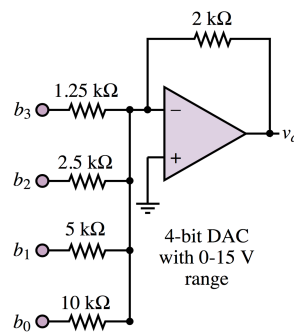

Figure 3: 4-bit DAC
**A2** (1) When pedestrians pass over IR Sensor, they will approach and deviate the sensor, which corresponds to voltage pulses  $V_A$  at the output of it. We can simply count pulse number for passing pedestrian.
(2) When Sensor B is covered with infra-red reflection materials, it can generate pulses  $V_B$  caused by non-infra-red wave. We can reduce wrongly counted number by subtract  $V_B$  from  $V_A$  to avoid counting noise signal.
**Q3** Considering the 4-bit DAC in Fig. 3, calculate the output scope of  $v_a$ , and the minimum voltage change it can generate.